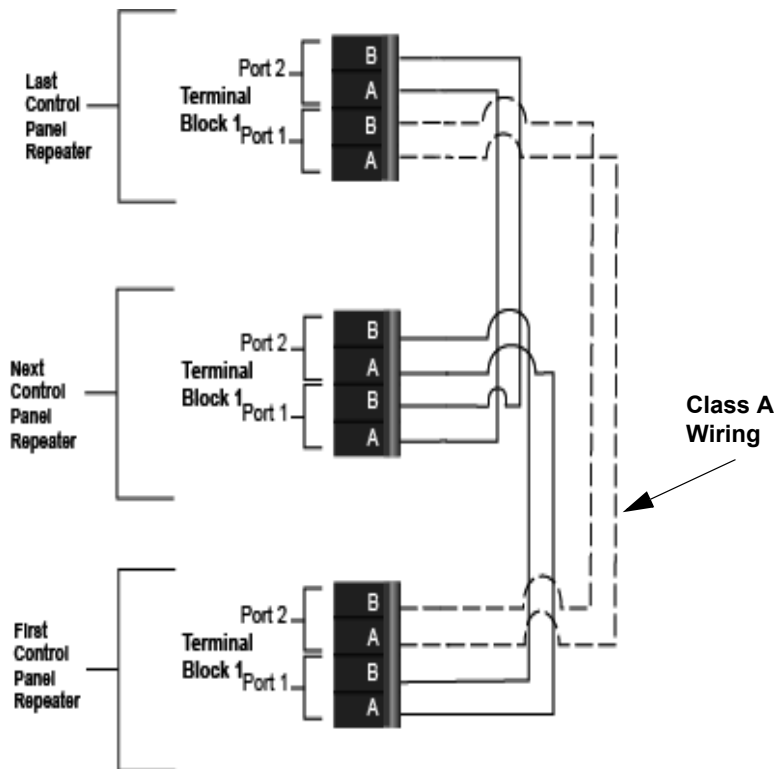
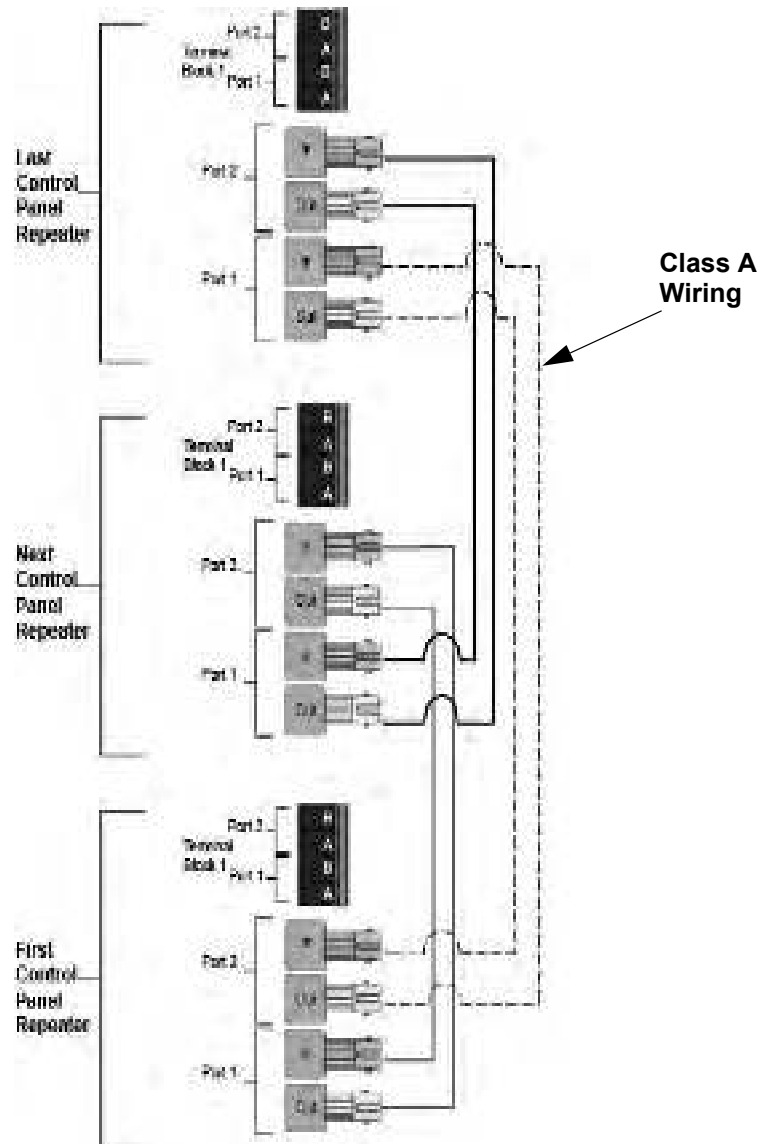
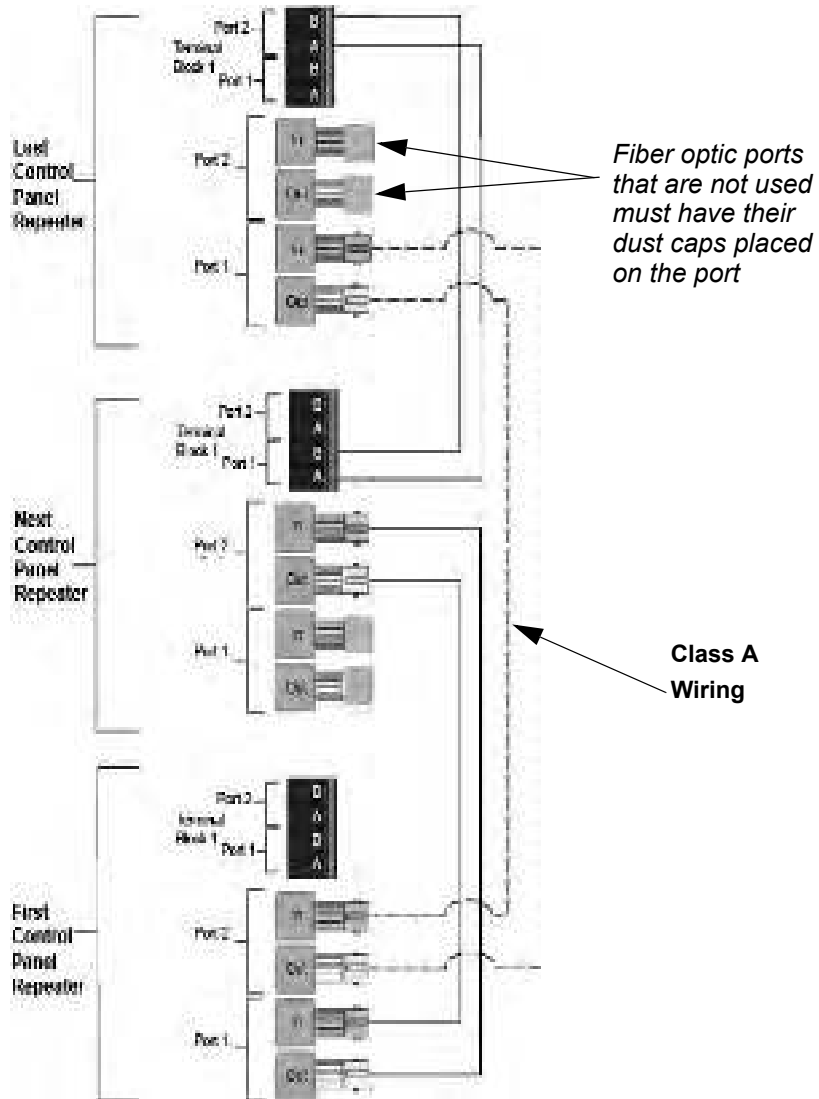
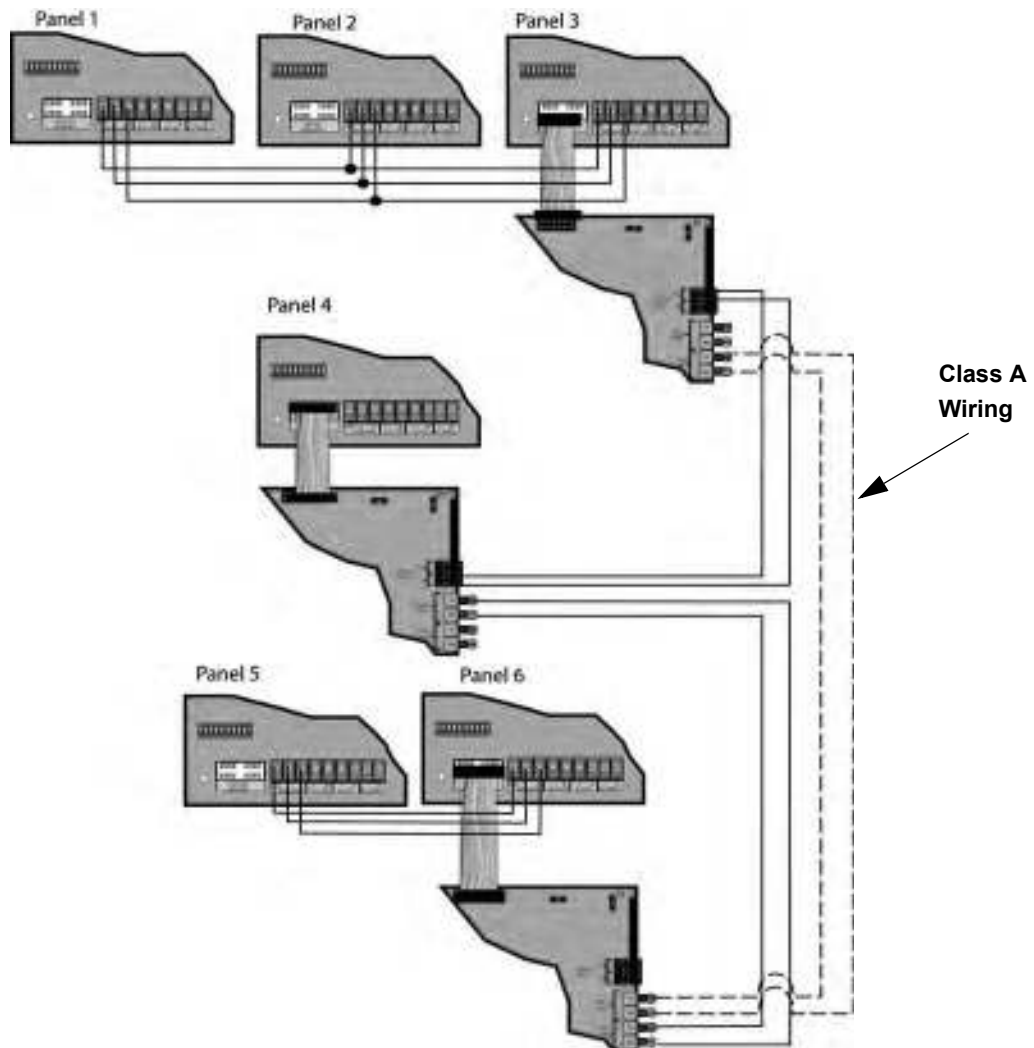

Figure 5-6 Twisted Pair Wiring Configuration
Figure 5-7 Fiber Optic Wiring Example
Figure 5-8 Twisted Pair and Fiber Optic Combination Wiring Example
Figure 5-9 Network Wiring Example Using Both Repeaters and Direct Connect Wiring
5. Based on the type of network repeater board chosen, run the twisted pair wiring /fiber optic cable to the next network repeater using a BUS or style 7 (class A) wiring method. A combination of both repeater types can be used. See Figure 5-6 on page 5, Figure 5-7 on page 6, Figure 5-8 on page 7, and Figure 5-9 on page 8 for repeater wiring examples.
Unshielded twisted pair wiring between multiple panels is shown in Figure 5-6. Class A wiring is shown with a dotted line.
Fiber optic cable between multiple panels is shown in Figure 5-7 on page 6. Class A is shown with a dotted line.
A mixture of fiber optic cable and twisted pair wiring between multiple panels is shown in Figure 5-8 on page 7.
Figure 5-9 on page 8 below shows a network wiring example using both repeaters and direct connect wiring. All repeaters in the system must be placed only on panels that are at the ends of a direct connect BUS or connected to panels with no direct connect network wiring.
The following text details how the panel and repeater terminators must be set for the network example in Figure 5-9 on page 8.